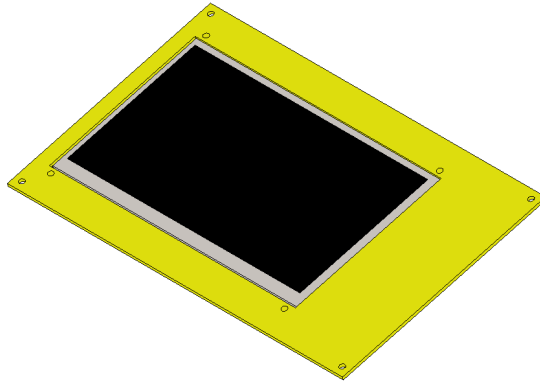

Figure 34: Touchscreen and *touchscreen lid* assembly.
4. Attach the touchscreen to the *touchscreen lid* using four (4) M3 screws with their corresponding nuts. Leave the assembly aside once finished. The touchscreen and the *touchscreen lid* element assembly is shown on figure 34.